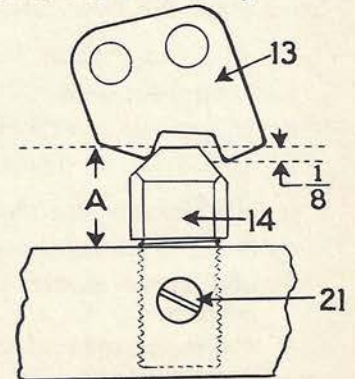

Fig. 28. Proper Toggle Stud Adjustment
5. Advance turret slide so that toggle (13), Fig. 28, has risen to within $\frac{1}{8}$ inch from the top on the angular surface of the toggle actuating stud (14) as indicated in the cut.
The toggle actuating stud (14), Fig. 28, is threaded into the top cap. It is locked with set screw (21). The setting should not be disturbed. It has been adjusted properly in assembly. If it is necessary to remove the stud, measure its projection (A), Fig. 28, from the cap and re-establish this height on assembly, as shown in the cut.